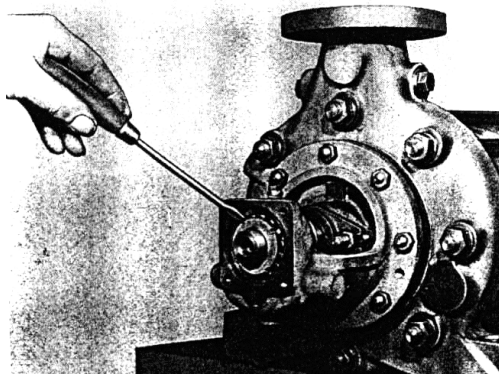

Fig. 83 - Bending down the tabs on the lock washer
5. Bend down the tabs on the lock washer (see Fig. 83).